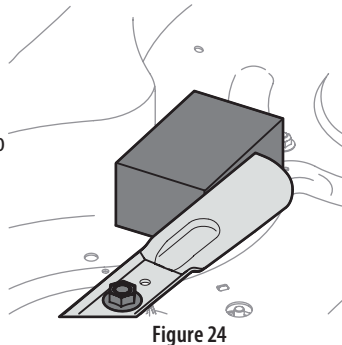

Figure 24
2. Place a block of wood between the deck housing baffle and the cutting blade to act as a stabilizer. See Figure 24.